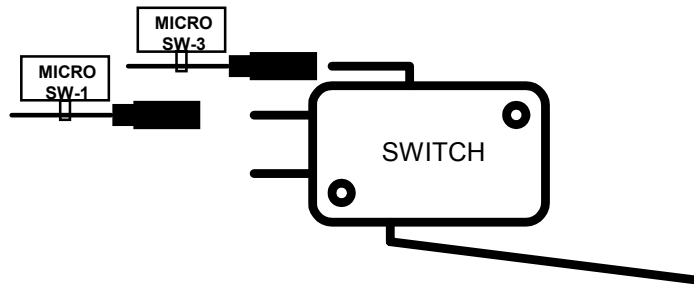

Figure 5
40. Connect the quick connect marked Micro SW-3 to the switch COM contact. See figure 5.
41. Connect the quick connect marked Micro SW-1 to the switch N.O.3 contact. See figure 5.